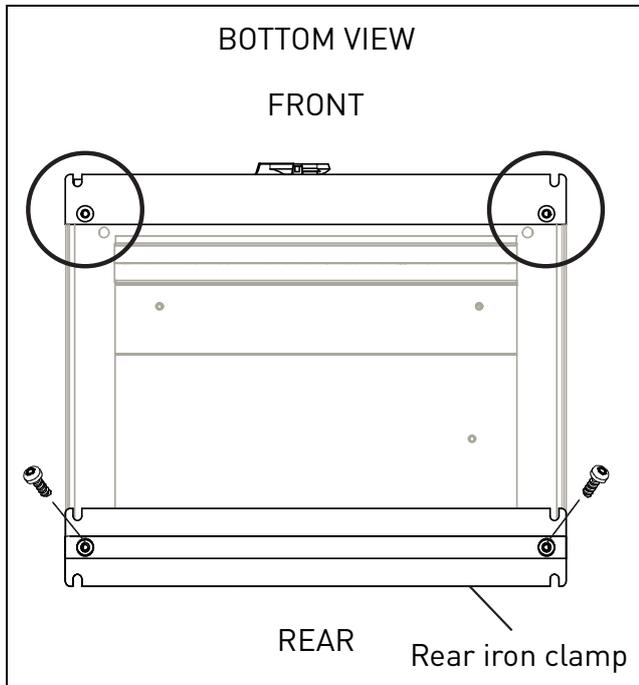

Figure 4-5.
1. On the bottom of the cabinet, remove the screws of the **rear iron clamp**. Flip it and refix the screws as shown in Figure 4-5.
2. Then bolt the cabinet to the floor at the fixing points on the bottom front side, see Figure 4-5.